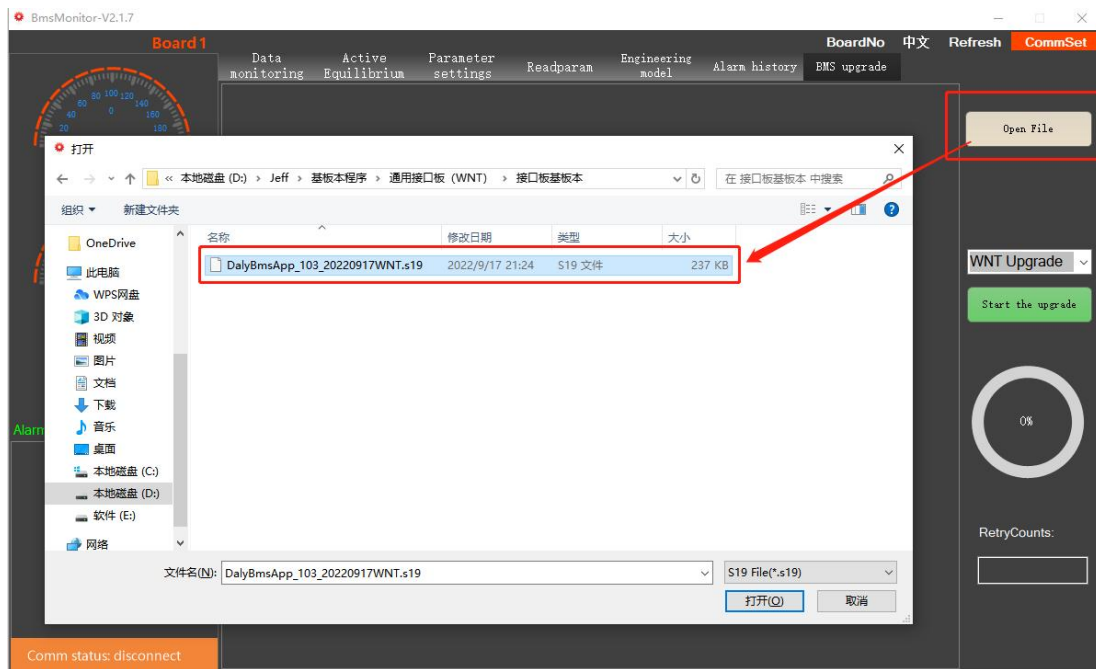

Figure 2-33 Open S19 file to upgrade
(2) **Click "Open Upgrade Program"** to load the upgrade file into the host computer, or directly drag the upgrade file into the "Universal Interface Board (WNT) Upgrade" interface. **Figure 2-33.**